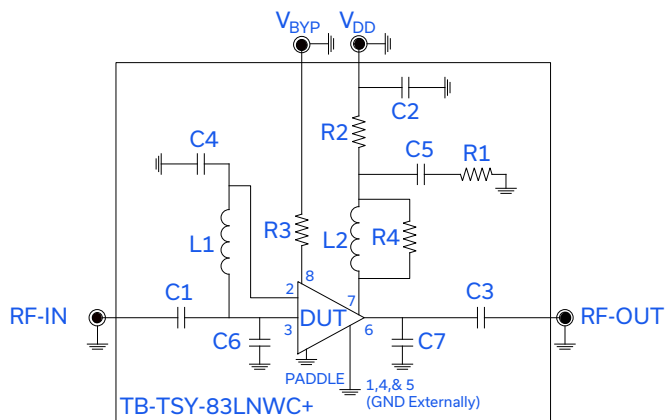

Figure 2. TSY-83LNW+ Characterization and Application Circuit
Note: The following data was taken on the Mini-Circuits Characterization Test Board TB-TSY-83LNWC+ (Figure 2).
9. Tested on Mini-Circuits Characterization Test Board TB-TSY-83LNWC+ at 30 MHz. See Figure 2.